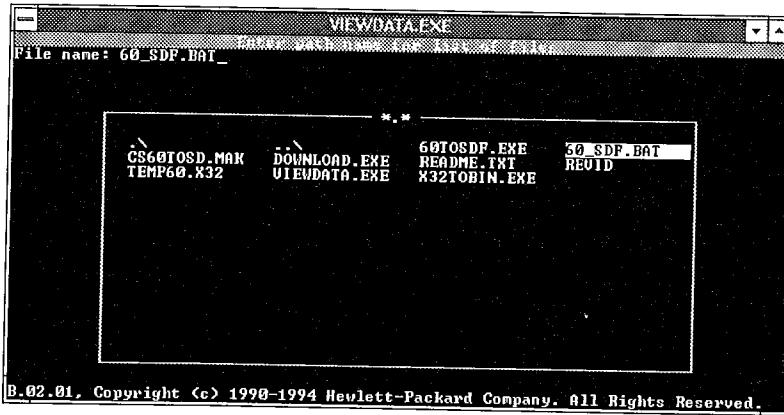

Fig. 8C File name selection screen
- Step 9. Select the "Read" option to produce a screen similar to that shown in Fig. 8C (the file names will be different to those shown).